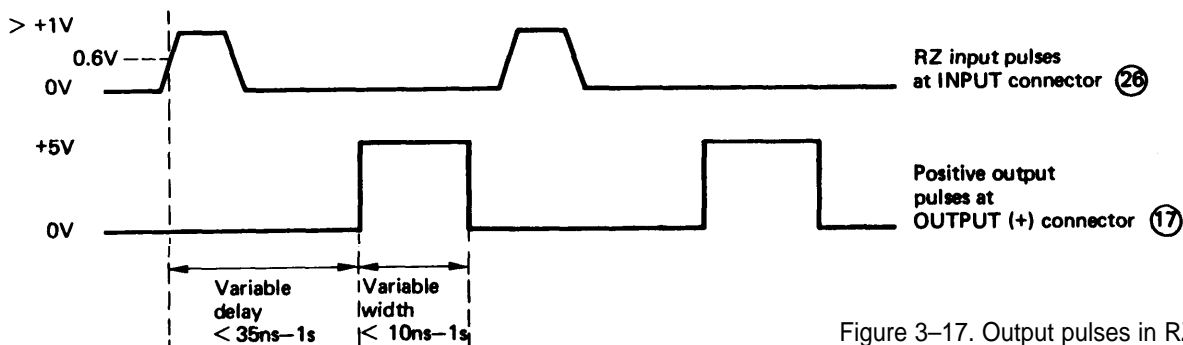

Figure 3-17. Output pulses in RZ mode
b. Set the Mode Selector switch (25) to RZ.
a. Connect the external signal to the INPUT connector (26) on the rear panel of the 8013B.
3-43 The output pulses should appear at the OUTPUT (+) connector (17) as shown in Figure 3-17.